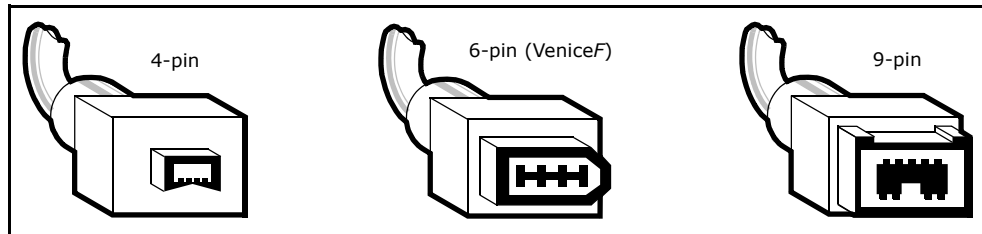

Figure 3: Some typical FireWire connectors
- 2 Connect the VeniceF to the Mac using the appropriate FireWire cable (see Figure 3 "Some typical FireWire connectors" on page 20), while observing the following precautions